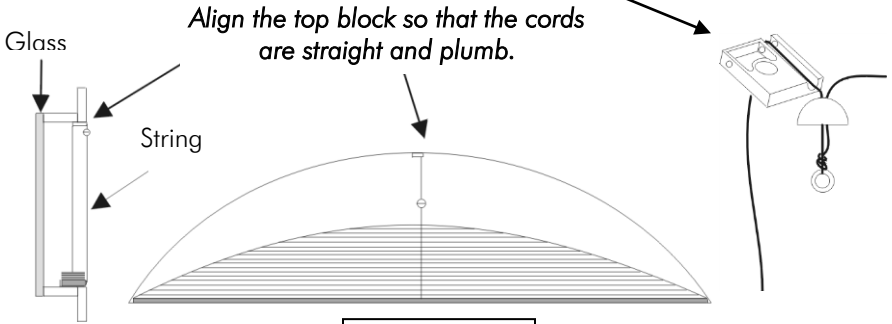

FIGURE 1
**NOTE:** SEE INSIDE MOUNT 1-STRING OR 2-STRING DIAGRAM ( FIGURE 1 OR 2 ).